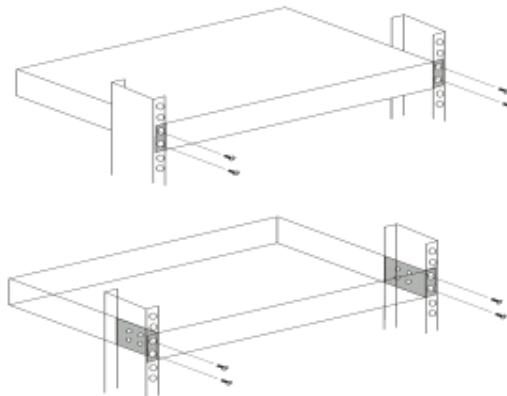

Figure 2-1. FOS-5128 Switch Rack-mounting
**Step 2.** Align the mounting holes in the brackets with the desired holes in the rack, and insert screws through each bracket and into the rack. (See Figure 2-1)